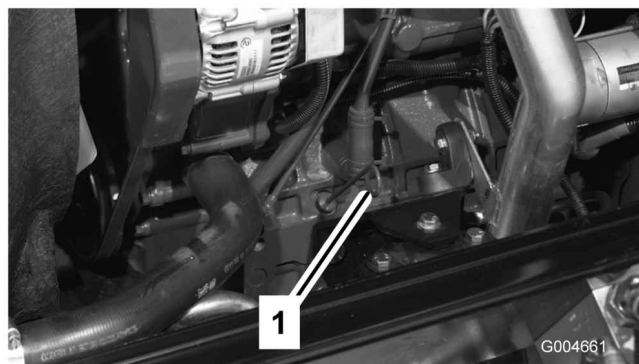

Figure 5
3. Remove the dipstick, wipe it clean, install the dipstick into the tube, and pull it out again. The oil level should be up to the FULL mark (Figure 5).